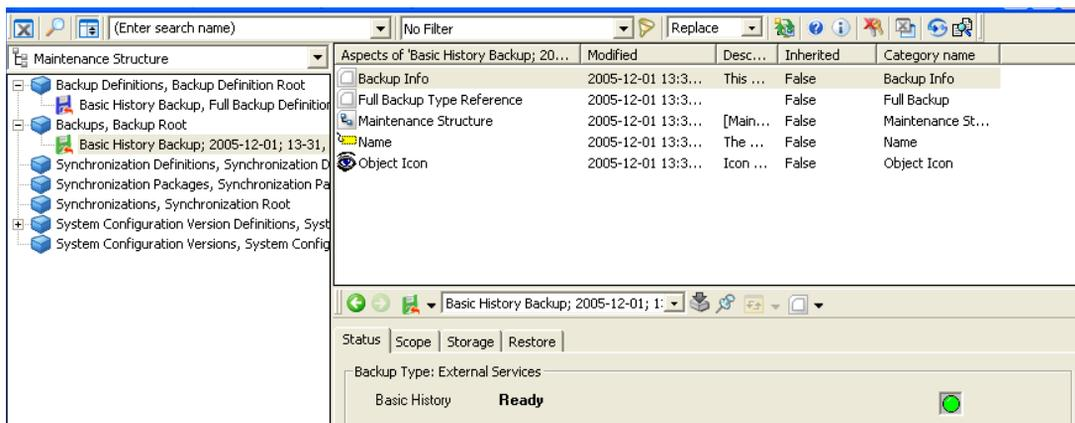

Figure 49. Backup Info aspect
- Select the Backup Info aspect, see Figure 49.